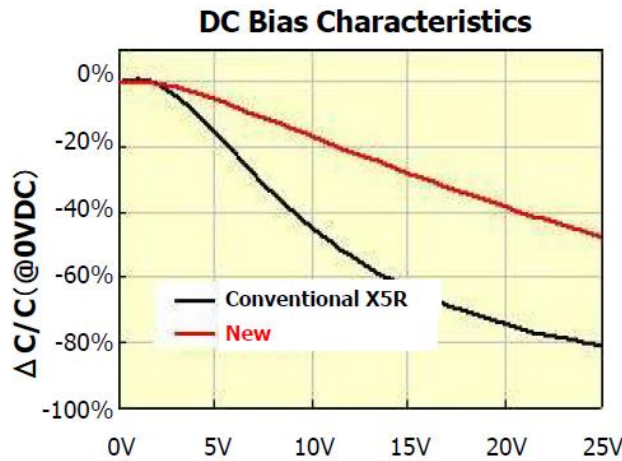

Figure 10. The comparison of MLCC equivalent capacitances between new and conventional fabrication processes.
6. Replace with an MLCC from the noise reduction solution: The output capacitance will affect how large the ripples are. Large ripples may cause resonance in between the layers, which will induce noises. The noise-reduction capacitors have the superior performance over the cross-voltages, that is, less capacitance change at higher DC biases. Figure 10